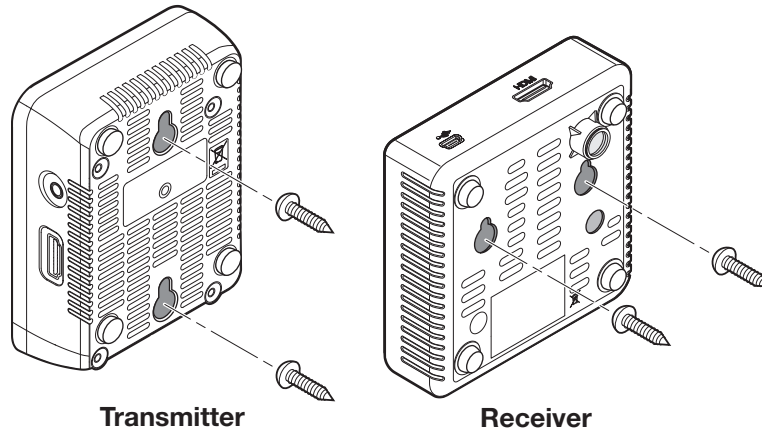

Figure 14. Mounting the eLink 100 Units
7. Align the mounting holes on the back panel of the unit with the two screws protruding from the wall (see figure 14).